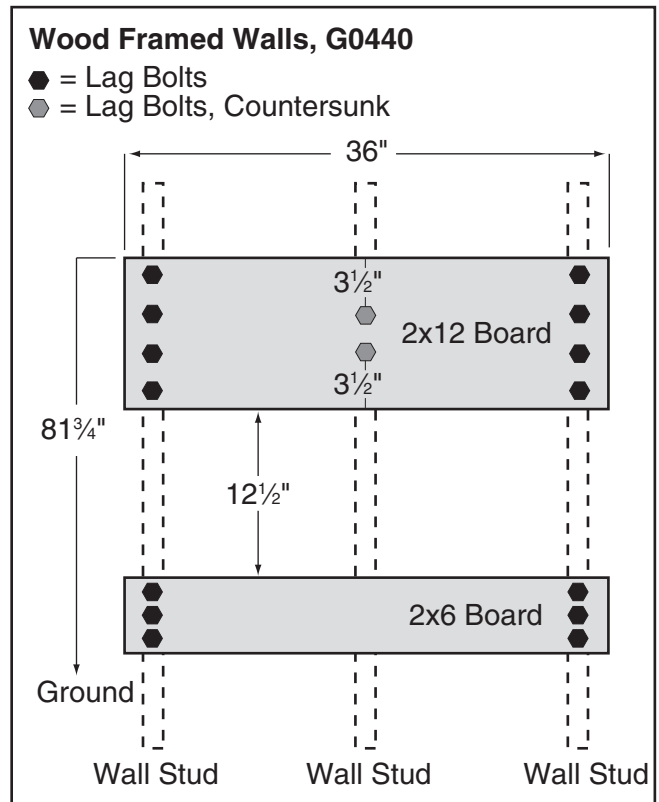

Figure 5. G0440 wall mounting board layout.
1. Secure the wall mounting boards to your wall, using the applicable layout diagrams for your machine and wall type (see **Figures 5–6**).